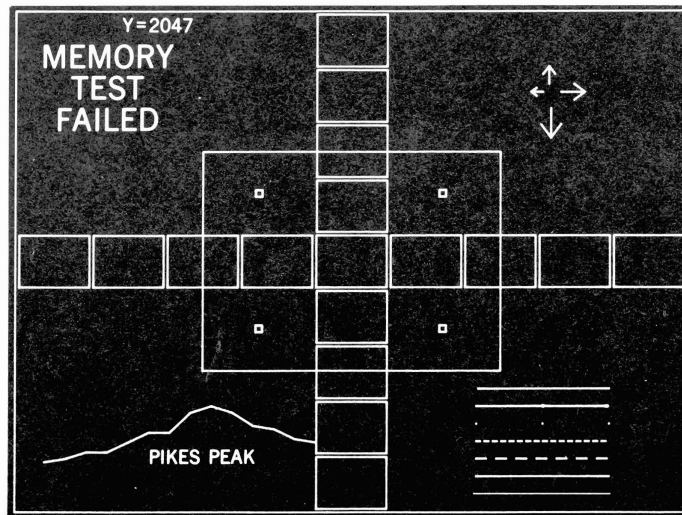

Figure 4-4. Memory Fail Test Pattern (1349D only)
d. If a test pattern as shown in figure 4-4 is displayed, then the memory circuit is defective. Refer to Section VIII, Service and Troubleshooting.